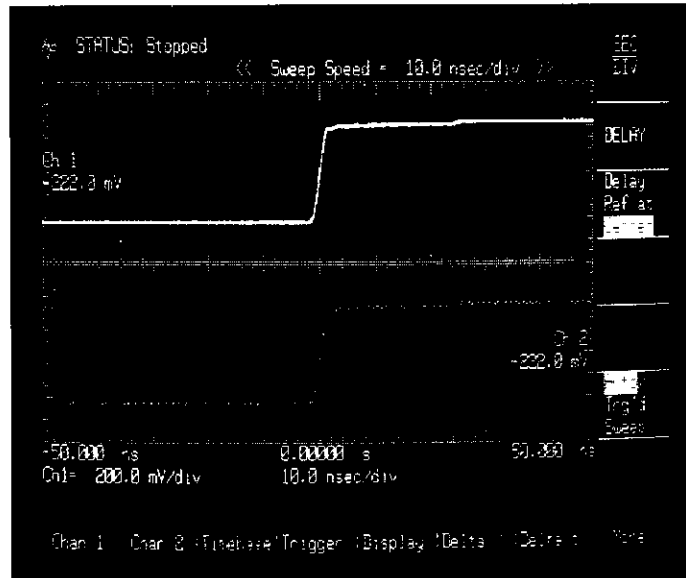

Figure 7-33. Low Timing Resolution on Channels 1 & 2.
6. Turn Func 1 off and select the Timebase menu. Set the SEC/DIV to 10 nsec/div (see Figure 7-33). Note the near vertical edges, (this indicates lower time resolution)